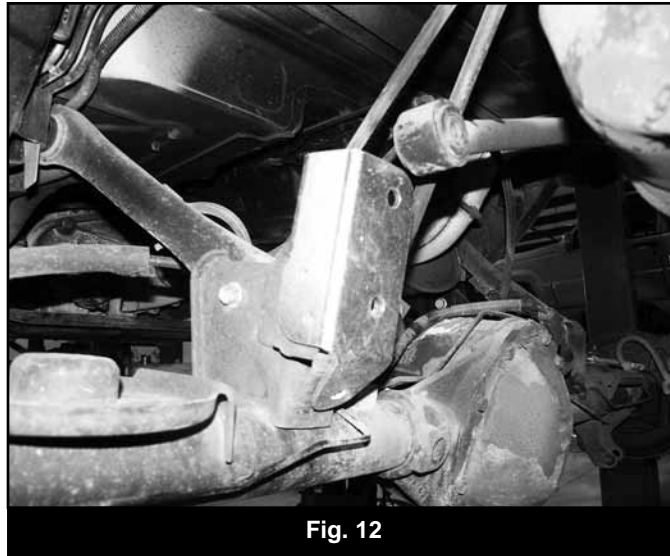
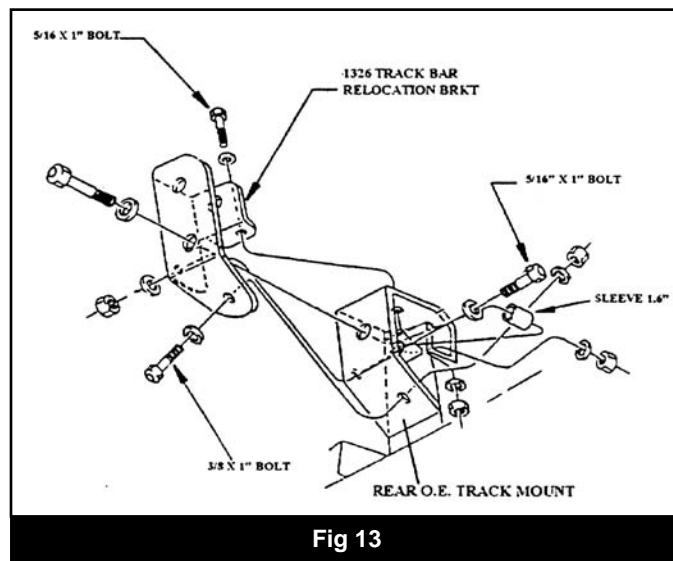

Fig. 12
Fig 13
44. Position the supplied track bar relocation bracket (01326) on the original track bar axle mount (Fig 12). Install the supplied 1.600" long sleeve (6-1) in the original track bar mounting point (Fig 13). Install a 12mm x 80mm bolt and 7/16" washer (BP 711) through the supplied bracket, OE mount, sleeve and out through the other side of the mount. Loosely fasten the bolt with the OE nut tab.